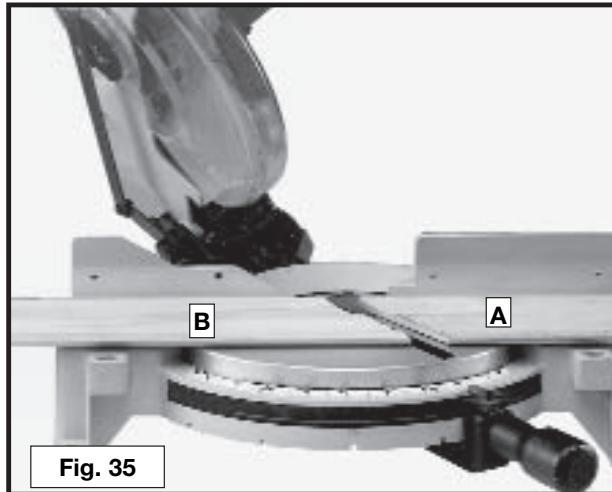
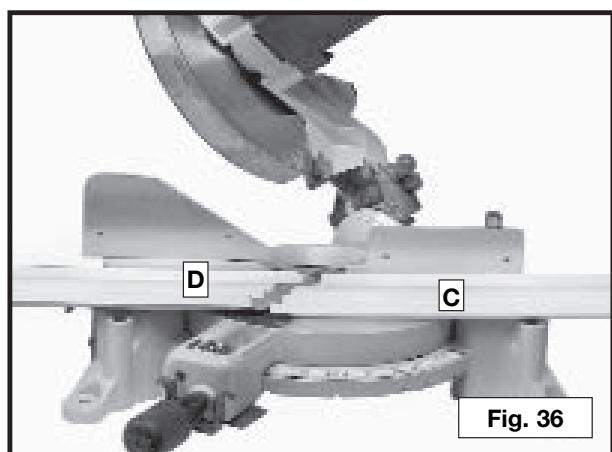
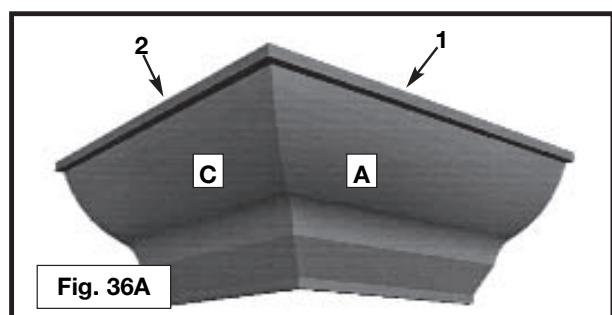
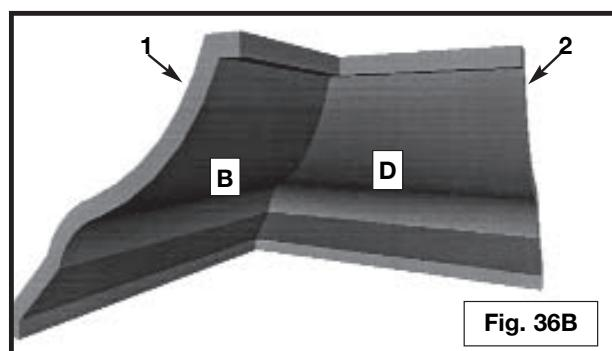

Fig. 35
Fig. 36
Fig. 36A
Fig. 36B
3. Place the crown moulding on the table with the **CEILING EDGE** of the moulding against the fence, and make the cut, as shown in Fig. 35.
**NOTE:** The piece of crown moulding used for the outside corner will always be on the right hand side of the blade, as shown at (A) Fig. 35. The piece of crown moulding used for the inside corner will always be on the left hand side of the blade, as shown at (B) Fig. 35.
5. Place the crown moulding on the table with the **WALL EDGE** of the crown moulding against the fence and make the cut. Again, the piece of crown moulding used for the outside corner will always be on the right side of the blade, as shown at (C) Fig. 36. The piece of crown moulding used for the inside corner will always be on the left side of the blade, as shown at (D) Fig. 36.
6. Fig. 36A illustrates the two outside corner pieces; (1) being the piece cut at (A) Fig. 35 and (2) being the piece cut at (C) Fig. 36.
7. Fig. 36B illustrates the two inside corner pieces; (1) being the piece cut at (B) Fig. 35, and (2) being the piece cut at (D) Fig. 36.